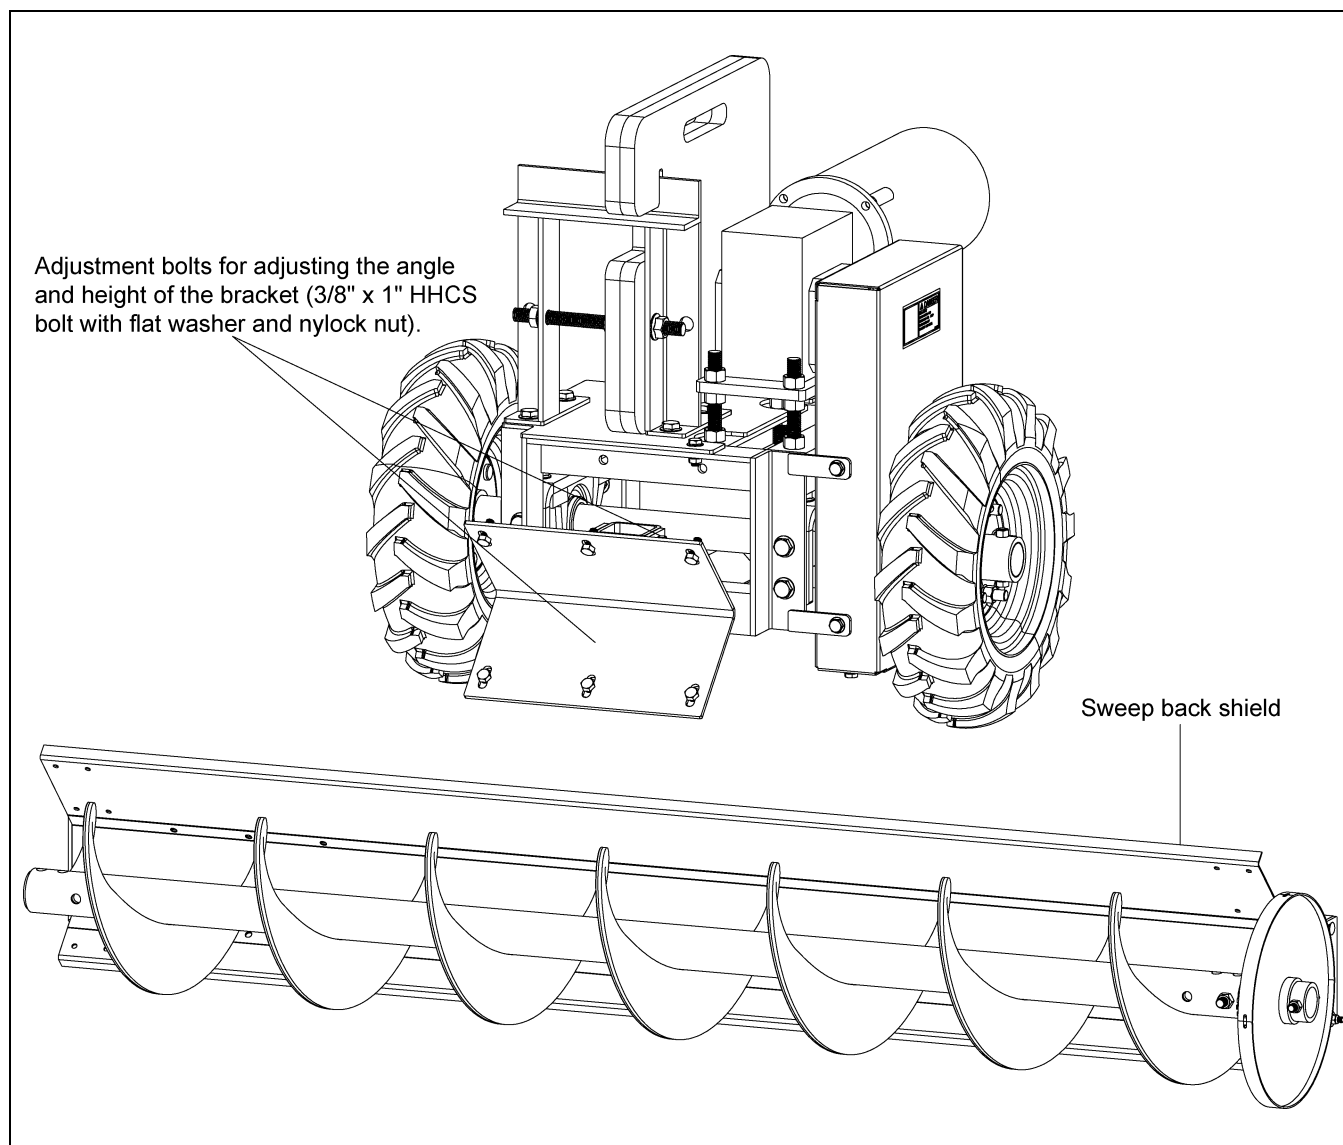

Figure 4M Sweep Tractor to Shield Assembly
4. After marking the hole locations, drill six (6) 7/16" holes and attach the sweep tractor to the back shield using six (6) 3/8" x 1" hex head cap screws, flat washers and nylock nuts.
5. Install electric wiring for motor and controls. (*See Figure 4M.*)